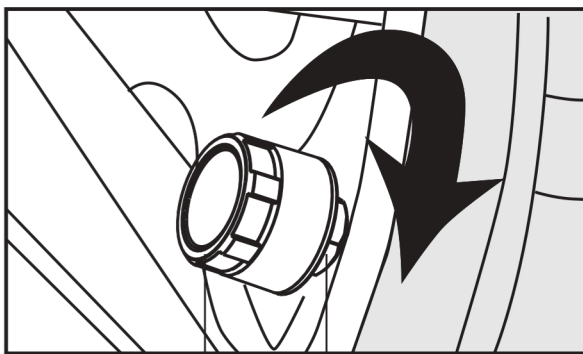

Fig 1 Sensor Brass Nut
1. Screw (brass coloured)nut onto the valve stem (optional), Fig 1.